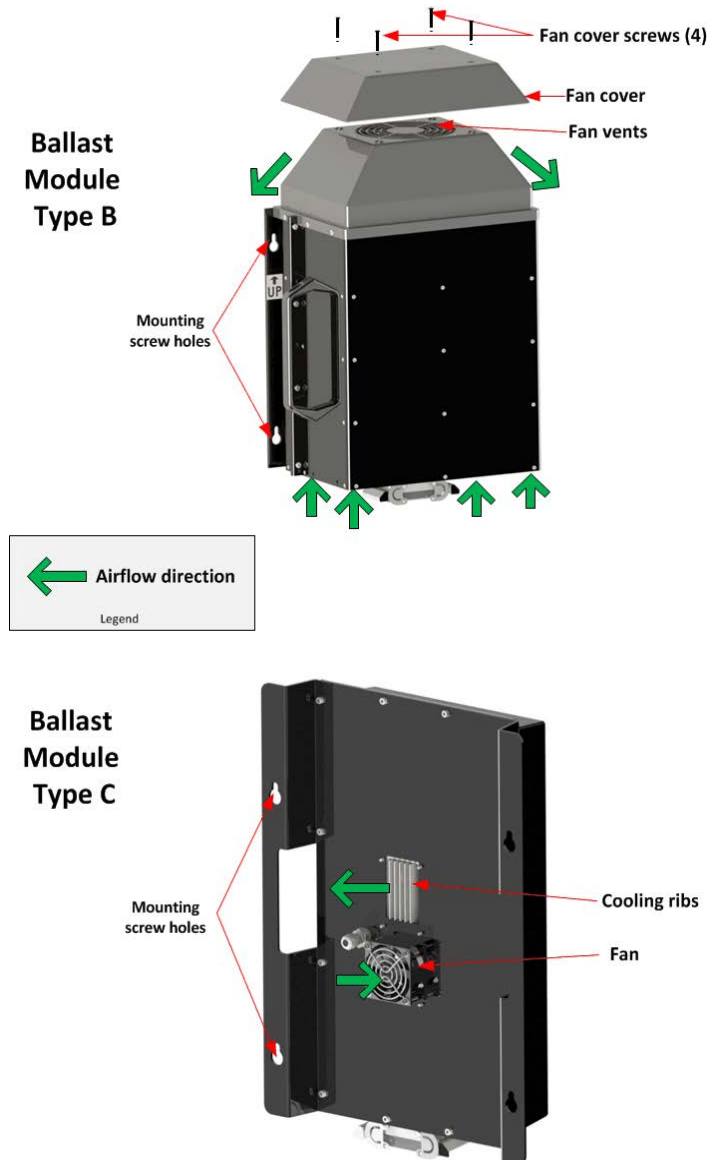

Figure 10-4: Accessing cooling fans
- Step 2.** For BM Type B, unscrew the 4 Phillips screws at the top of the fan cover and remove the fan cover - see Figure 10.4 , on page 10-128.
- Check that air is being blown out of the fans of the Ballasts **Figure 10-4**